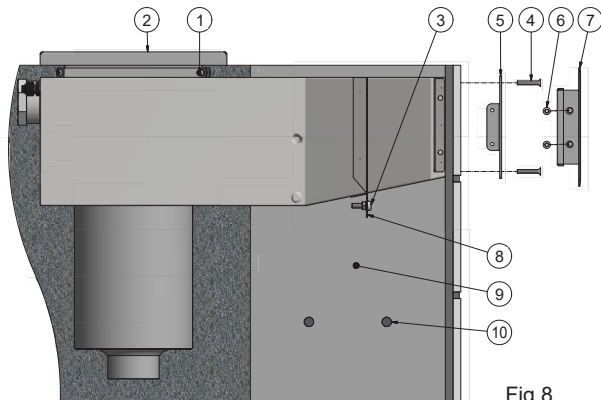

Fig 8.
4. Connect the cable (at least 6 mm2) with a ring from the intake flange to earth (see item 3 Figure 8). Screw, toothed washer and nut are supplied with the product.
9. Assemble the frame and secure it with screws (4x M5x30), see Fig. 8.